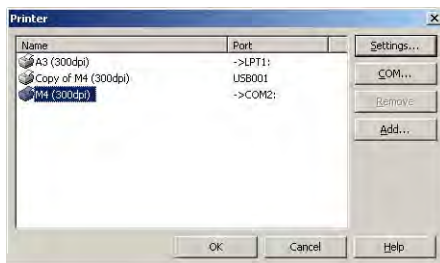

Fig. 8d Window "Select printer" in CABLABEL
- Select the **M4** printer on the serial port (in fig. 8d **M4/300** on COM2) and click on the "Settings" button.